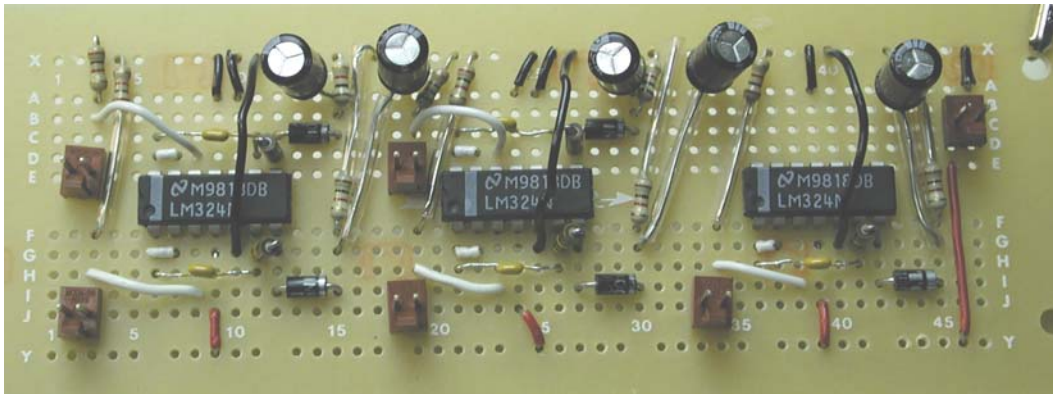

Figure 7: Molex headers, resistors, and signal input
- The location of the resistor and capacitor on the last chip are similar to that of the second chip (see Figure 7).
- Figure 7 shows where the Molex connectors are placed. These connectors will be used to input the IR sensor signal.